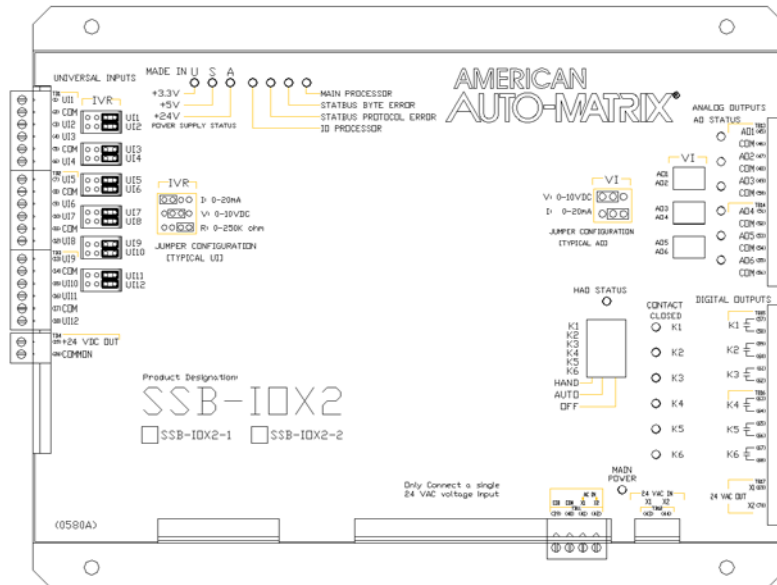

Figure 5-61 : The SSB-IOX2-2 Module
The SSB-IOX2-2, shown in Figure 5-61, is a STATbus module based on the same hardware as the GPC1 controller. It provides twelve(12) universal inputs.